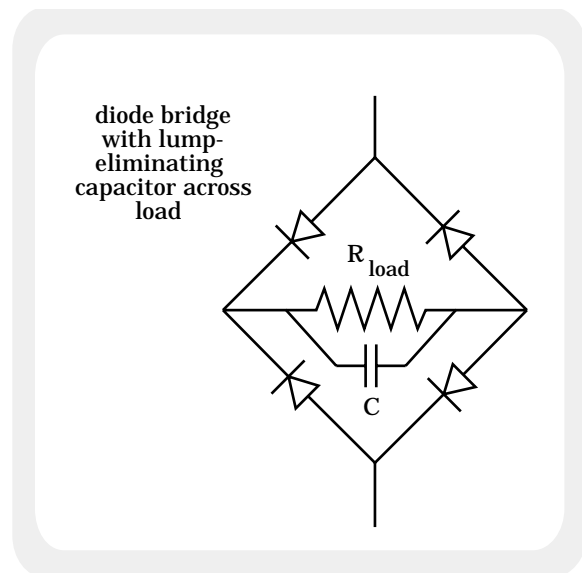

FIGURE 21.8
a.) A capacitor must be placed across the load resistor (see Figure 21.8). When the power is first turned on, the current in the circuit will rise and the capacitor will charge up. The voltage sooner or later reaches its maximum and begins to decrease. As it does, the charged capacitor begins to discharge through the load resistor.